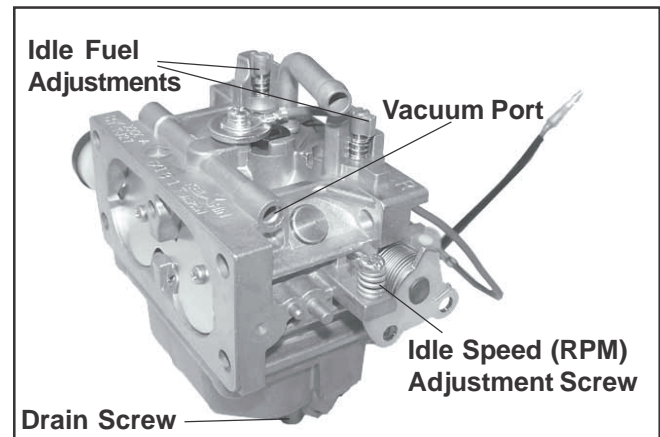

Figure 25. Keihin Two-Barrel Carburetor.
These engines use a Keihin BK two-barrel carburetor with fixed main jets, and fixed or limiter-equipped low idle fuel adjusting needles. See Figure 25. In compliance with government emission standards, the carburetor is calibrated to deliver the correct fuel-to-air mixture to the engine under all operating conditions. Adjustments are made as follows.
1. **Low Idle Speed (RPM) Setting:** Place the throttle control into the **idle** or **slow** position. Hold the governor lever away from carburetor so the throttle lever is against the Idle Speed (RPM) Adjustment Screw of carburetor. See Figure 25. Set the low idle speed to **1200 RPM\*** ( $\pm 75$  RPM) by turning the low idle speed adjusting screw on carburetor **in or out**. Check the speed using a tachometer.